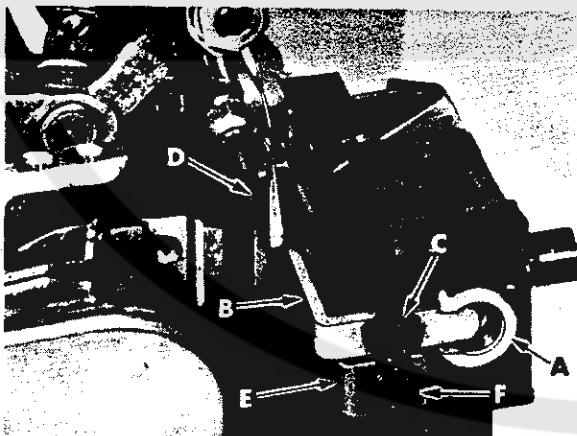

Fig. 9
Remove spring from inside of lower knife holder (A, Fig. 9), then reassemble knife holder. Replace rear needle guard (B) using screw (C) to hold guard in position. Guard must NOT interfere with lower knife holder movement or come in contact with lower looper/spreader at any point of travel.
Replace front needle guard (E, Fig. 9) using screw (F). Temporarily tighten screw (F) to hold guard in position, yet allowing guard to be adjusted. Rotate handwheel in operating direction until needle(s) is at lowest position. Set guarding SURFACE of needle guard (E) to needle(s) with minimum clearance - approximately .004 inch (.10mm) and tighten screw (F) securely. Check to ensure needle(s) is NOT being pinched between front and rear needle guards.